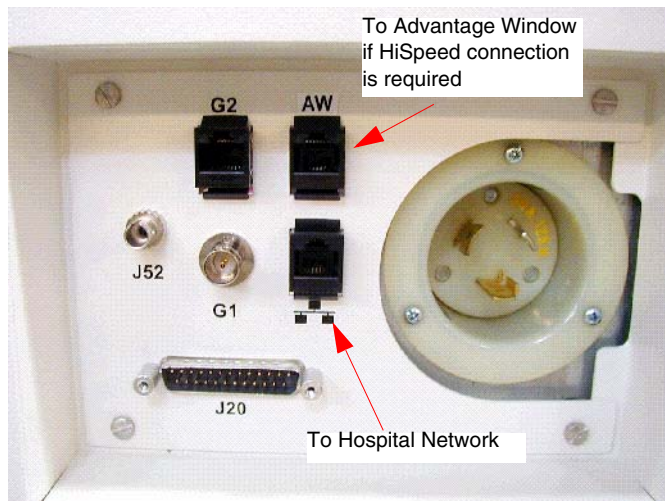

Figure 7-17 Console Rear Bulkhead
- A patch cable (not to exceed 10 feet) should be provided by the customer, and it is used to connect the console to a wall box. (See Notes on Figure 7-17)